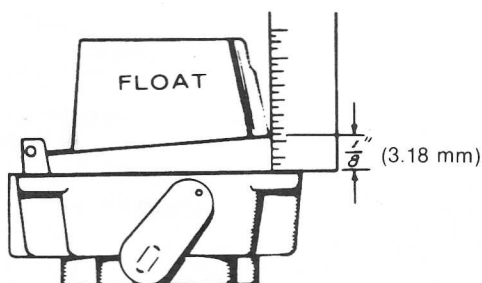

FIGURE 6. FLOAT ADJUSTMENT
2. Invert float assembly as shown in Figure 6.
3. If it is necessary to reset the float level, bend float tangs near pin to obtain a 1/8-inch (3.18 mm) clearance (Figure 6).